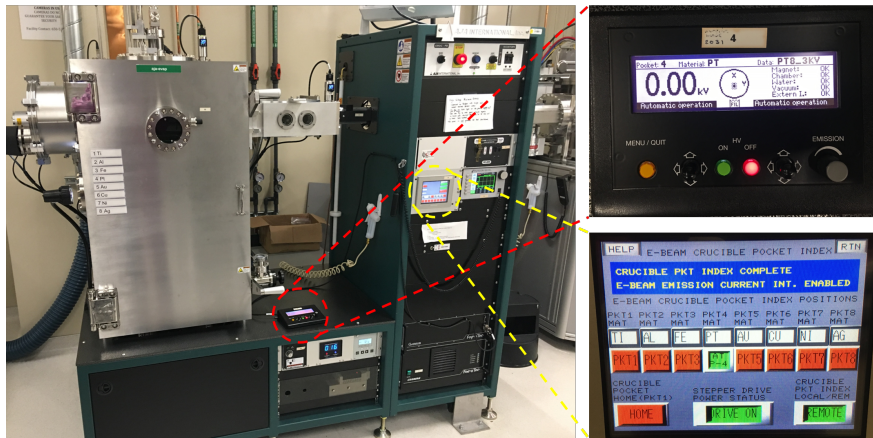

Figure 17: The AJA evaporator tool, along with the user interfaces to input recipes and specify the deposition material.
- Open the load lock valve separating the main chamber and the load lock by pressing the red "OFF" button labeled "LLIV" on the touchscreen controller main screen, seen on the lower-right in Figure 17. There should be a noise coming from the valve indicating that it is open. In addition, two red LED lights beneath the load lock must have switched from the top one being illuminated, to the bottom one being illuminated.
- Close the load lock valve by pressing the green "ON" button labeled "LLIV" on the touchscreen controller main screen, seen on the lower-right in Figure 17. There should be a noise coming from the valve indicating that it is closed. In addition, two red LED lights beneath the load lock must have switched from the bottom one being illuminated, to the top one being illuminated.
- Select the correct material, aluminum, on the "Gameboy" controller, seen in the upper-right of Figure 17, by pressing on the yellow "Menu/Quit" button on the left. Use the left joystick to move the arrows up or down to "Set pocket".
- Make sure the chamber pressure is below 5E-7 before turning on the e-beam power supply, on the right of the overall system portion of Figure 17. It is a green switch labeled "MAIN" at the bottom of the right stack of controlling equipment on the tool. Press the "ON" button under "HV" on the "Gameboy" controller.